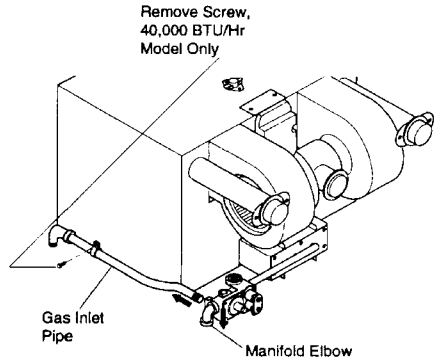

Figure 12 - Disconnecting Gas Inlet Pipe (40,000 BTU/Hr Model Shown)
5. **40,000 BTU/Hr Model Only:** Remove screw holding gas inlet pipe clamp to furnace. (See Figure 12).
6. Disconnect gas inlet pipe from 3/8" manifold elbow. Turn gas inlet pipe counterclockwise to disconnect (see Figure 12).
7. Rotate the 3/8" manifold elbow 90° so the opening is pointing downward (see Figure 12).